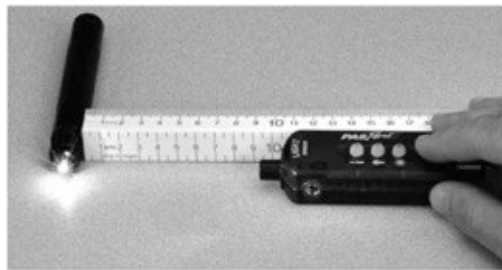

Figure 81-2 *Courtesy PASCO.*
4. Record the distance (any choice of unit, inches, or meters can work, but be consistent throughout your investigation). Record the light intensity, as shown in Figure 81-2, in the units in which the light meter is calibrated (such as lumem/m^2 or lm/m^2).